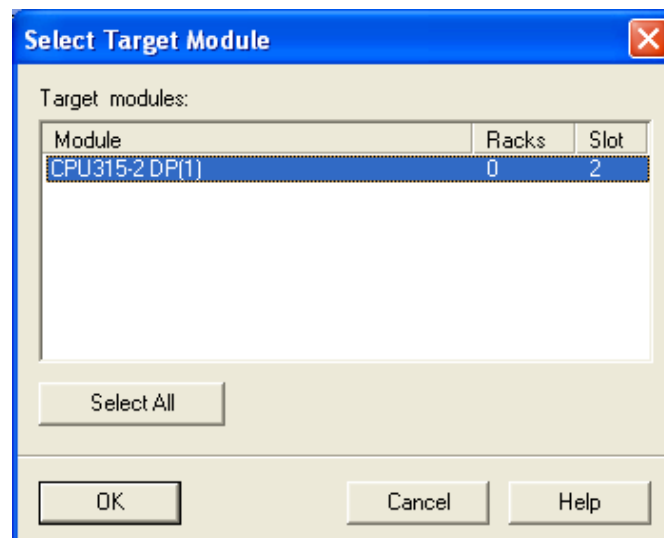

Figure 7-25
6. After all the parameters are configured, click  in the HW Config window to show the dialog box as Figure 7-25. Click “OK” to go to the next dialog box.